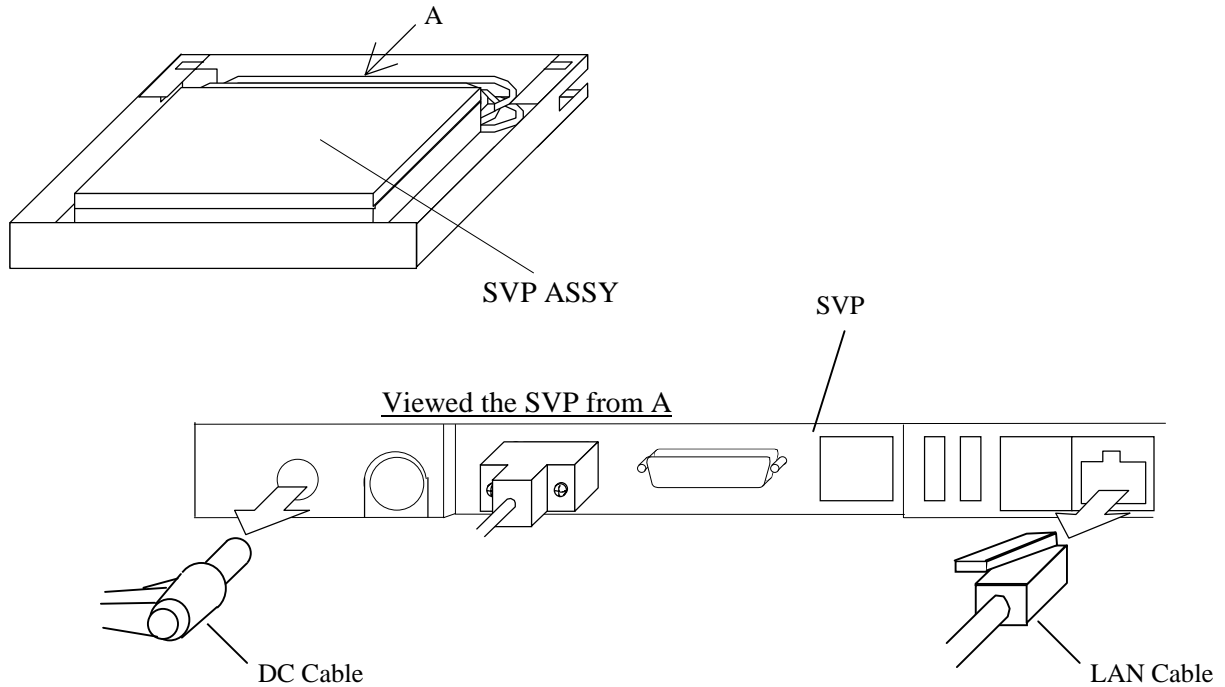

Fig. 3.15-12 Removing and installing Cables
- c. Connect the LAN cable and DC cable to the SVP. (See Fig. 3.15-12.)